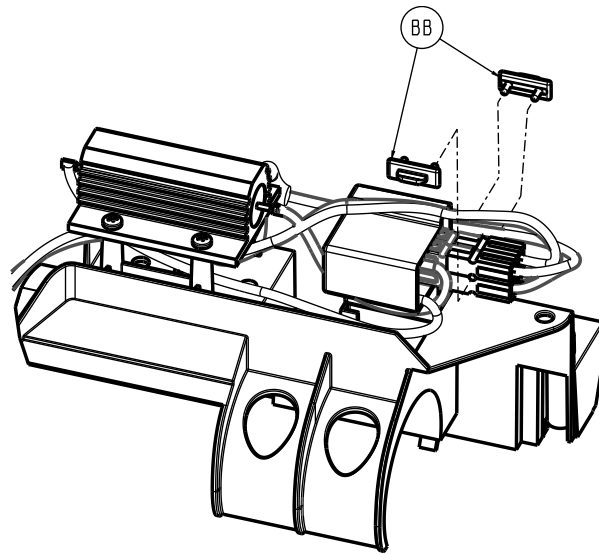

Figure 13 –
3. Using a small slotted screwdriver, remove the two retention clips (BB) (Figure 13). Save the retention clips.